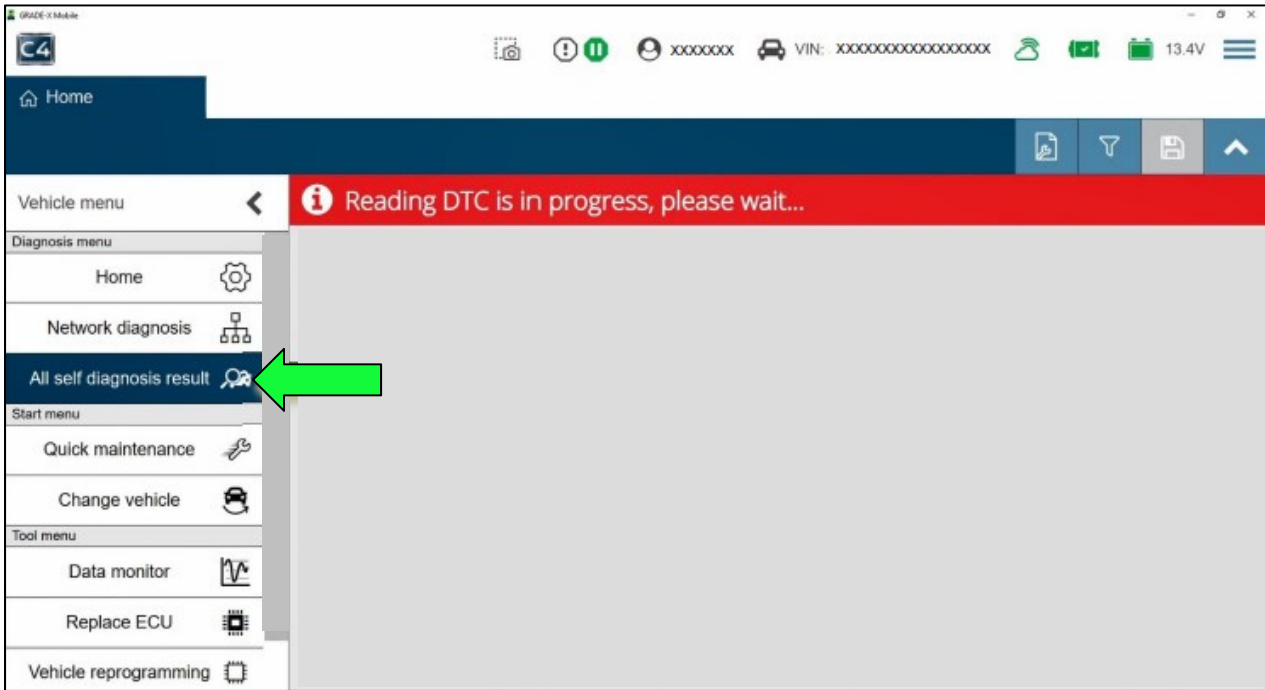

Figure 23
- a. Select **All self diagnosis result** (Figure 23).